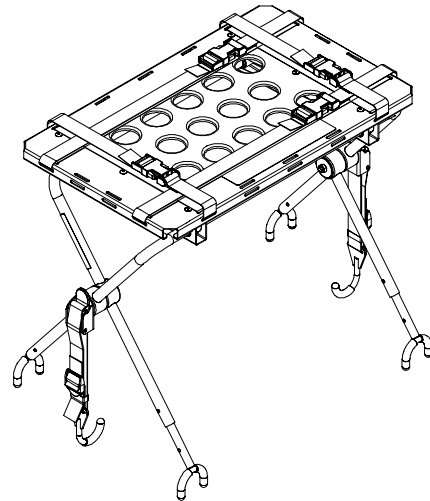

Figure 27 – Open defibrillator platform legs
2. Open and expand the defibrillator platform legs (Figure 27).